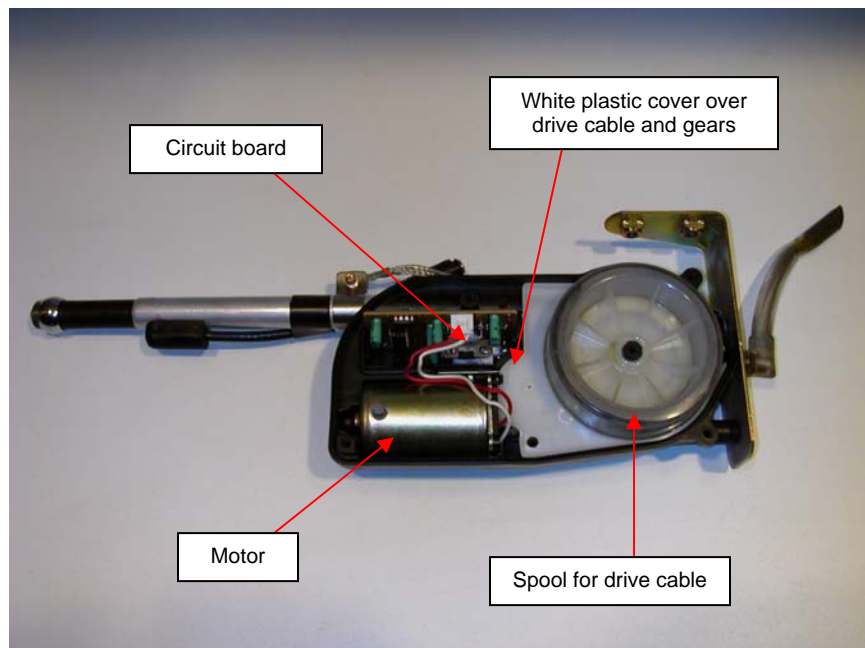

Fig. 6
6. The antenna comprises a motor, circuit board, gears and spool for the wand, and has a minimum of electrical connections (Fig. 6). Start and stop of the motor depends on changes in electrical properties, i.e., current draw, voltage spike